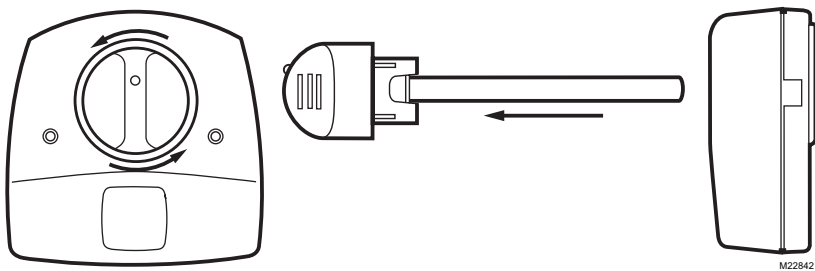

Fig. 5. Remove lamp bulb.
3. Rotate your lamp handle counterclockwise and gently pull the lamp handle to remove the bulb. See Fig. 5.
- 4. Rotate the lamp handle counterclockwise and gently pull the lamp handle to remove the bulb. See Fig. 5.